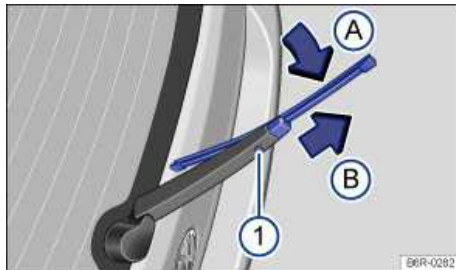

Fig. 157 Changing the rear window wiper blades.
- Press and hold the release button ⇒ fig. 157 \(1\).
- While lifting the wiper blade in the direction of the wiper arm ⇒ fig. 157 (arrow (A)), pull off the wiper blade in the direction of the arrow (B). This may require moderate force.
- Install a new wiper blade of the **same length and type** onto the wiper arm by pushing in the opposite direction of the arrow (B) until it latches.